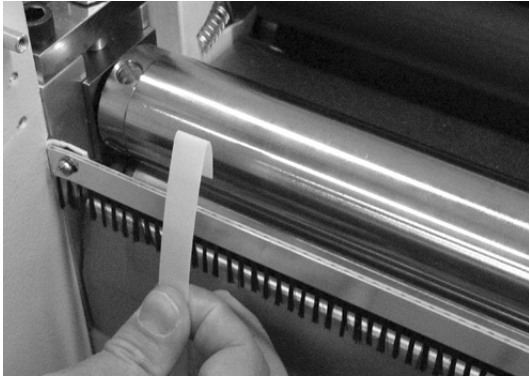

Figure 11
1. Optional Flow Straps can be used when processing thicker paper stock. To install, fold over 1/2 inch of strap. (Figure 11)